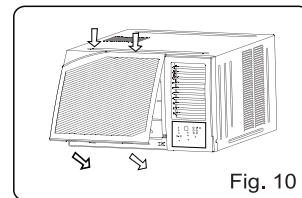

Fig. 10
2. Hang the front panel on the frame's buckle, then press the front panel into the frame's slot until you hear a click (See Fig.10).